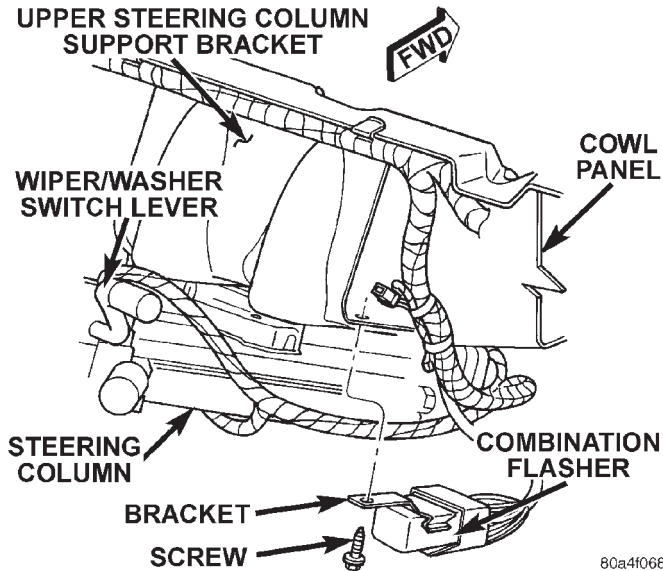

Fig. 4 Combination Flasher Remove/Install
(3) Reach through the inboard side of the steering column opening in the instrument panel and remove the screw that secures the combination flasher mounting bracket to the upper steering column mounting bracket (Fig. 4).